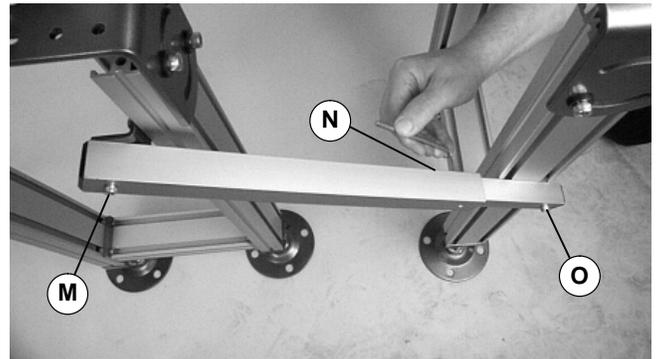

Figure 20
- Loosen screws (M, N & O of Figure 20).
- Tighten screws (M, N & O of Figure 20) to 80 in-lb (9 Nm).